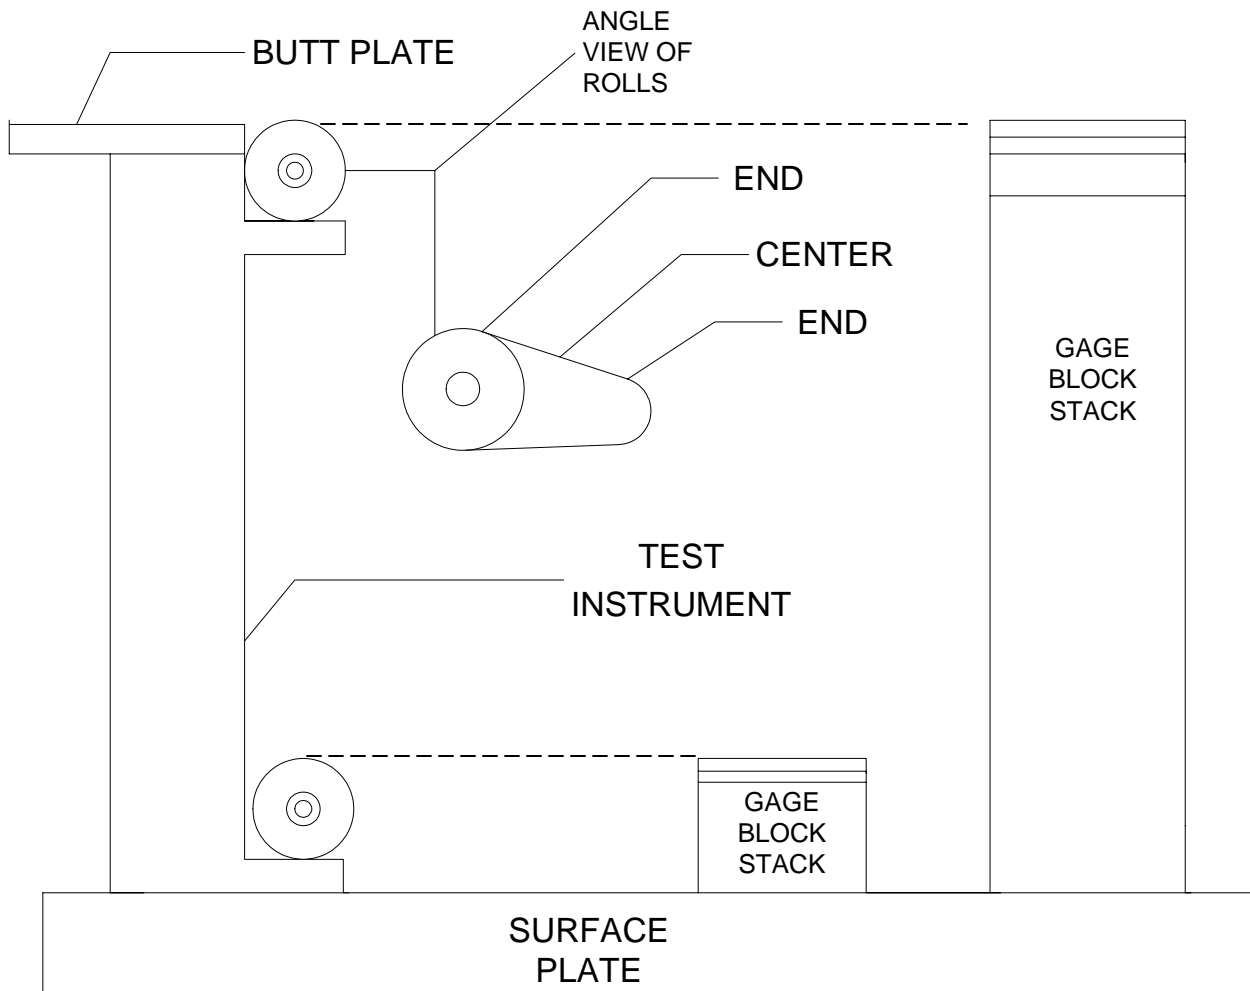

Figure 1. Equipment setup.
7. **Equipment Setup.** Place TI on surface plate with butt plate up. Set height gage and two stacks of gage blocks on surface plate. The two stacks of gage blocks must be the same height as the two rolls of the TI, within the measuring range of the height gage (fig 1). Allow all equipment to thermally stabilize for at least 12 hours.
(1) Using height gage and stacks of gage blocks setup in 7 above, measure the distance between the TI rolls at the center and at each end of the rolls (fig. 1).
(2) The distance between the two rolls and the parallelism of the rolls will be within the limits specified in table 1.